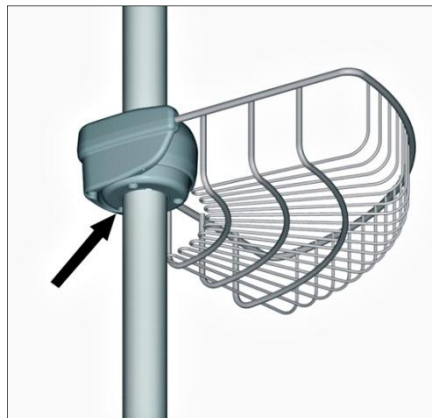

Fig. 2
3. Thread the baskets along the tube and mount on required height. (Fig. 2)
4. Tighten up the screws (3 pcs) below the clamping collar of the basket. The screwing up is adequate, when the basket does not move downwards. (Fig. 2.)